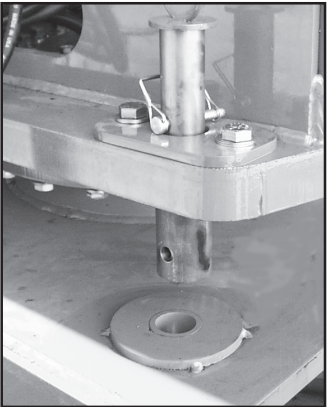

Figure 1: Locking bolt
- 3. Retract locking bolt. See figure 1.